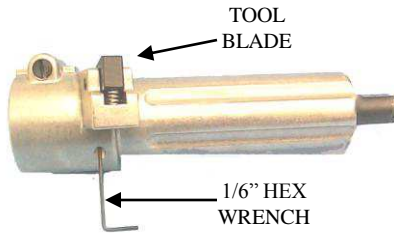

Fig. 5
Step 5. (Fig. 5) Before stripping the insulation, adjust the blade edge to 1/64"(.39mm)-1/32"(.79mm) above the conductor surface by inserting the provided hex wrench through the hole located beneath the tool blade.